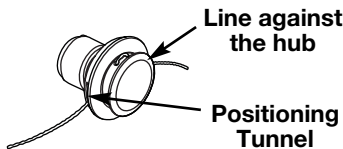

Fig. 9
5. Pull the line and make sure the line is against the hub and is fully extended through the positioning tunnels (Fig. 9).